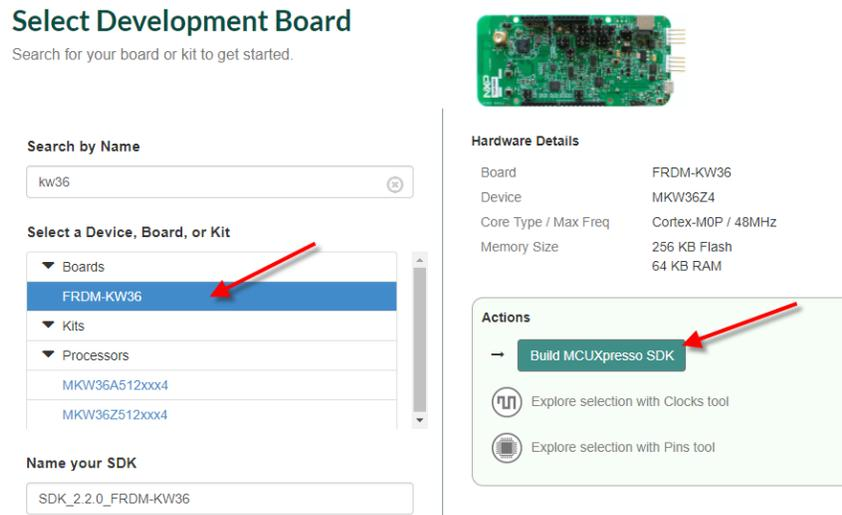

Figure 2. Select development board window
- c. Search for “FRDM-KW36” and click on “Build MCUXpresso SDK”. See *Figure 2*